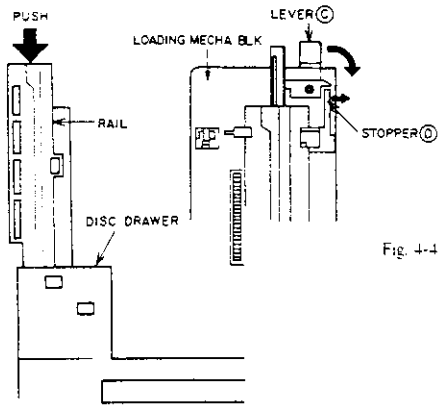

Fig. 4-4
- 2) Turn the LEVER ③ while releasing the STOPPER ④ as shown Fig.4-4, and pull out the DISC DRAWER.